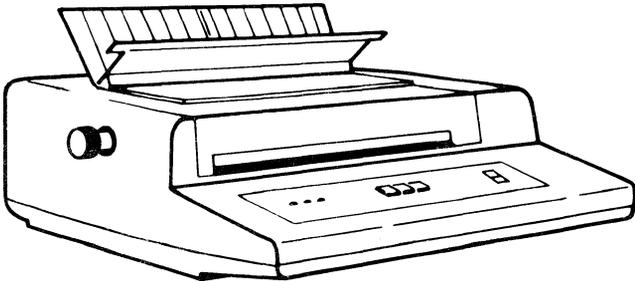

Figure 3 - "Selectric" Element Printer
- The IBM "Selectric" Element Printer (Figure 3) is cable connected to the Electronics Module and can be used by only one work station. The printer's rated burst speed is up to 15.5 characters per second (CPS).